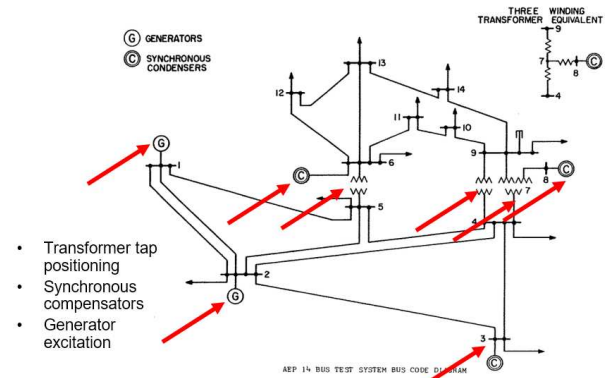

Fig. 8. CLP influencing points
- Influencing points in the substations (in the nodes – see fig. 8.) are